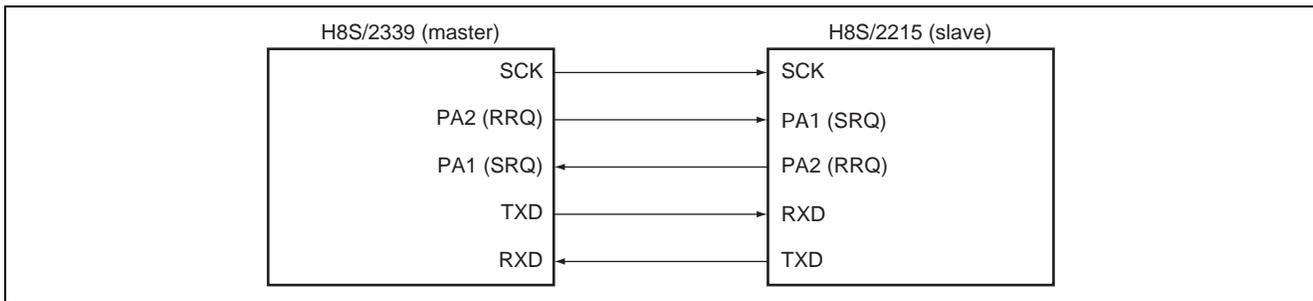

Figure 1 Block Diagram of Clock Synchronous SCI by H8S/2339
1. As shown in figure 1, this function transmits and receives 1-byte data between an H8S/2339 and H8S/2215.